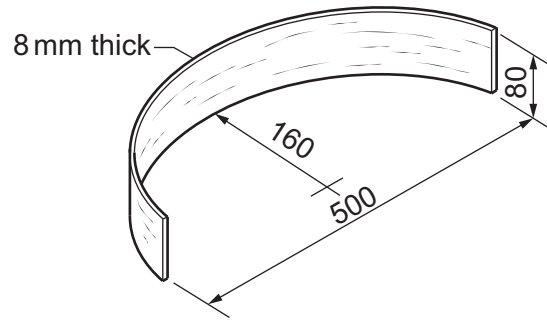

Fig. 3.1
- 3 Fig. 3.1 shows details of a length of 8 mm thick hardwood that has been bent to shape.